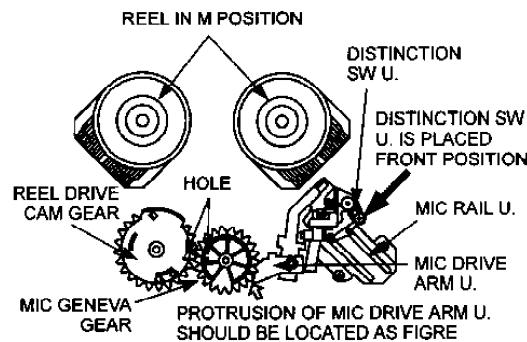

Fig.6-22-3 Gear Phase Adjustment
5. Install the Reel Drive Cam Gear and hole of Reel Drive Cam Gear should be matched with the hole of MIC Geneva Gear as shown in Figure 6-22-3.
3. Portrusion of MIC Drive Arm Unit is positioned as shown in Figure 6-22-3.